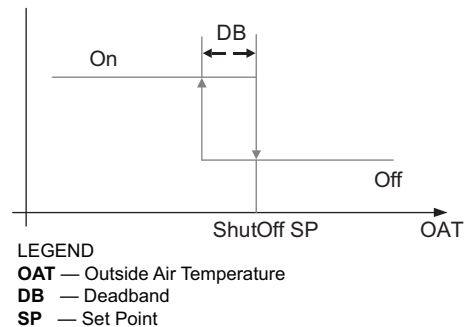

Fig. 87 — Hysteresis Settings
Hysteresis setting (DB) defaults to 2°F (–17°C). See Fig. 87.